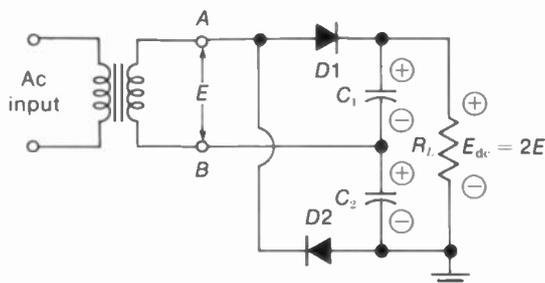

FIGURE 12-19 CIRCUIT OF FULL-WAVE VOLTAGE DOUBLER.
**Full-wave doubler.** See Fig. 12-19. On the half-cycle when point A is positive,  $D_1$  conducts to charge  $C_1$ . On the next half-cycle  $D_2$  conducts to charge  $C_2$ . The dc output voltage is taken across  $C_1$  and  $C_2$  in series. Therefore, the dc output is doubled. The ripple frequency is 120 Hz, since both half-cycles of the ac input produce dc output. The full-wave voltage doubler circuit is seldom used, however, because it does not have a common connection for ac input and dc output.